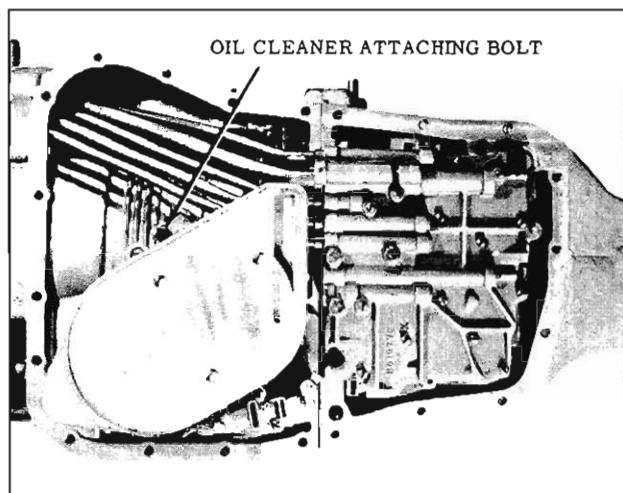

Fig. 6-20 Oil Cleaner
4. Remove oil cleaner attaching bolt and oil cleaner. (Fig. 6-20)